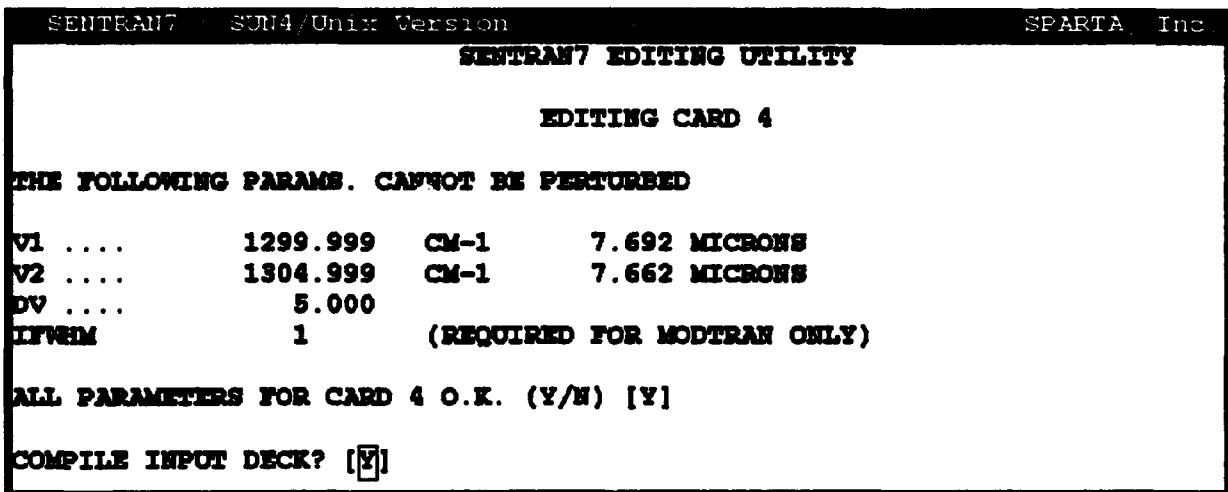

Figure 55. Example of the Prompt to Compile the Current LOWTRAN7/MODTRAN Problem After Editing All Cards
- 17) SENTRAN7 will now ask if you would like to compile the current input cards, as shown in Figure 55. We want to compile the cards, therefore we should press RETURN, accepting the default (yes). Answering 'y' to this prompt has the same effect as choosing the Compile Module from the Main Menu.